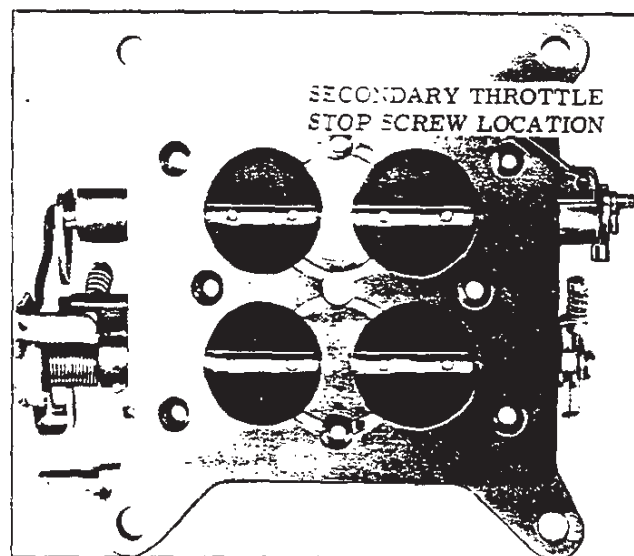

Fig. 17—Adjusting Secondary Throttle Stop Screw
- a. Secondary throttle valve stop screw (fig. 17). Back-off on adjustment screw until throttle plates are closed fully, then turn screw until it just touches the throttle lever and turn one-half turn more to position the valves.